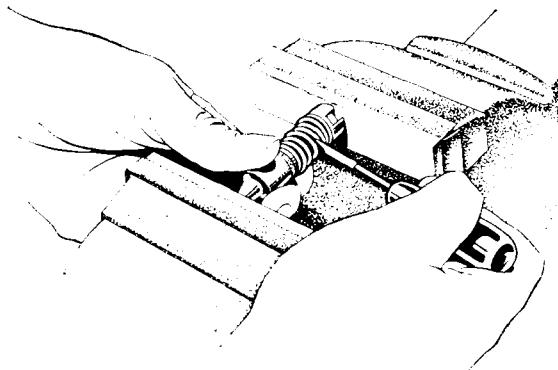
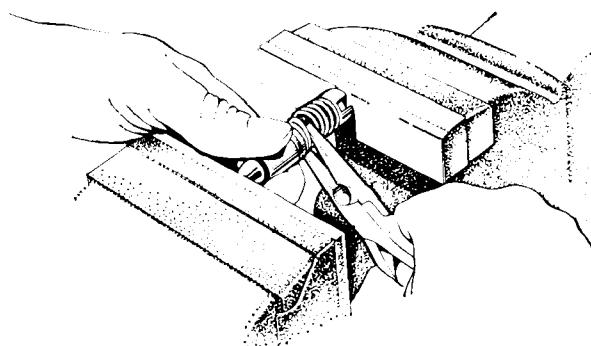
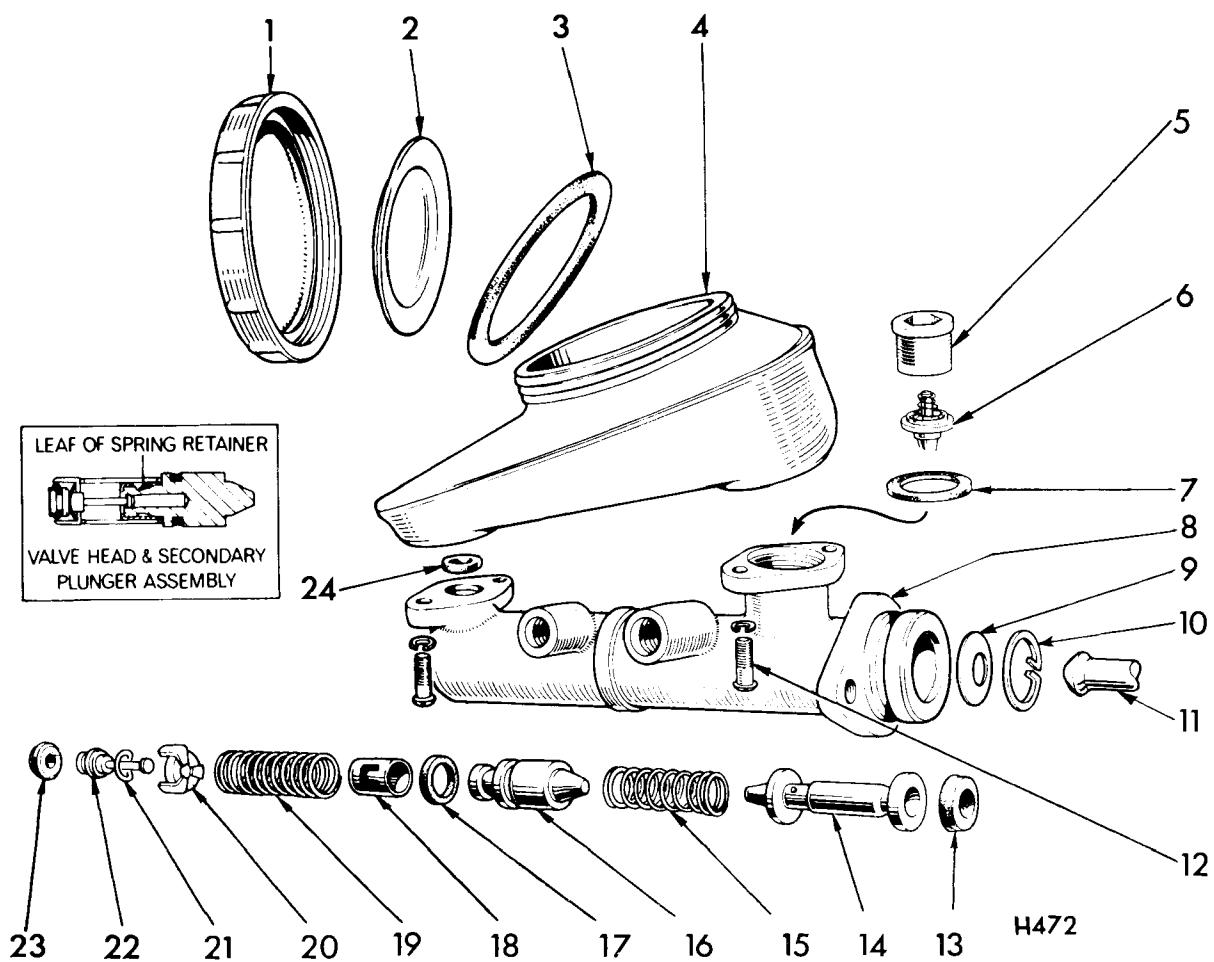

Fig. 48. Pressing the spring retainer back against the secondary plunger.
Fig. 49. Depressing the leaf of the spring retainer behind the head of the plunger.
Fig. 50. Exploded view of master cylinder.
Dismantling (Fig. 50)
2. Remove four screws (12) attaching the reservoir to the cylinder body.
3. Depress the push rod (11), remove the circlip (10) and withdraw the push rod together with abutment plate (9) and circlip (10).
4. With an Allen key unscrew the tipping valve securing nut (5) and remove the seal (7).
5. Depress the primary plunger and remove the tipping valve (6).
8. Lift the leaf spring of the spring retainer (insert Fig. 50) and remove the spring and centre valve sub-assembly from the secondary plunger (16).
9. Remove the spring (19), valve spacer (20) and spring washer (21) from the valve stem (22), and remove the valve seal (23) from the valve head.
10. Remove the seals from the primary (14) and secondary (16) plungers.
11. Lever out the baffle (2) and remove the cap washer (3) from the filler cap.
2. Referring to inset on Fig. 50, fit the valve seal (23) smallest diameter leading, on to the valve head (22).
3. Position the spring washer (21) on the valve stem so that it 'flares' away from the valve stem shoulder and follow with the valve spacer (20), legs first.
4. Attach the spring retainer (18) to the valve stem, keyhole first.
5. Slide the secondary spring (19) over the spring retainer, then position the sub-assembly on the secondary plunger (16).
6. The spring must now be compressed whilst the leaf of the spring retainer is pressed down behind the head of the plunger. To do this, position the sub-assembly between the jaws of a bench vice and, to prevent possible contamination, place a clean piece of paper between each end of the sub-assembly and the vice jaws (Fig. 48). Close the vice to compress the spring until it is almost coil bound. Use a small screwdriver to press the spring retainer right back against the secondary plunger (Fig. 48). Using a pair of pointed nose pliers (Fig. 49), depress the leaf of the spring retainer behind the head of the plunger. Ensure that the retainer leaf is straight and firmly located behind the plunger head as shown on Fig. 50 inset.
7. Fit the intermediate spring (19) into position between the primary and secondary plunger.
13. Fit the push rod (11) with the abutment plate (9) and circlip.